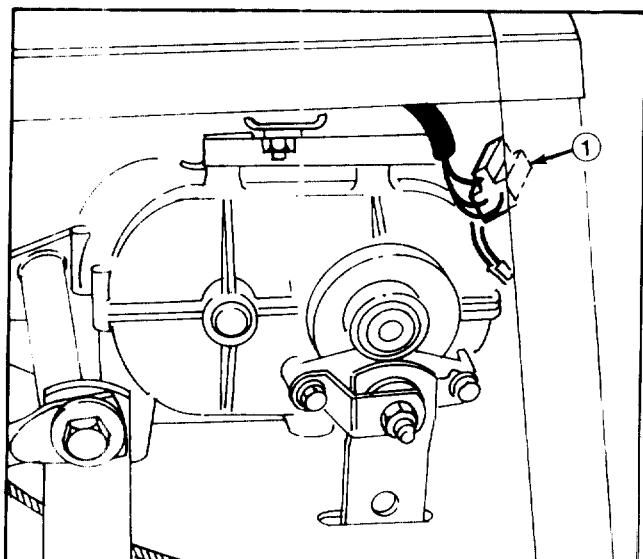

Figure 31
3. Push module connectors together to assure connector (Fig. 31).